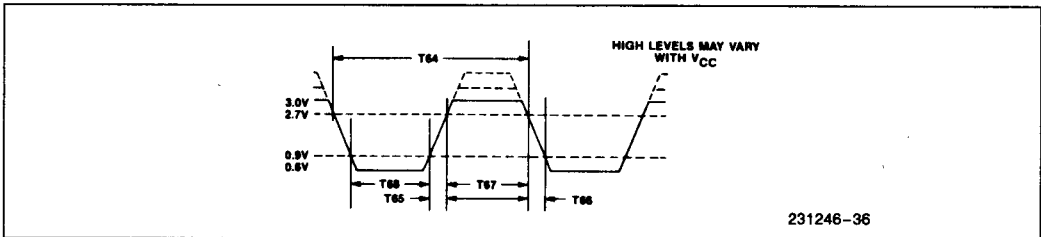

Figure 35. $\overline{\text{Rx}}\overline{\text{C}}$ Input Voltage Levels for Timing Measurements *
15. 82C501 compatible levels, see Figure 35